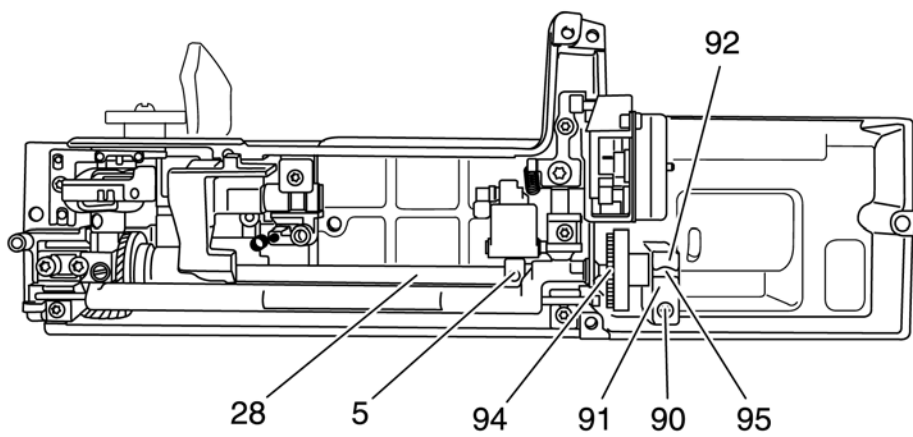

Fig. 78
- Lift complete hook driving shaft 28 out of the lower right calotte bearing 92 as far as it will go (fig. 78).